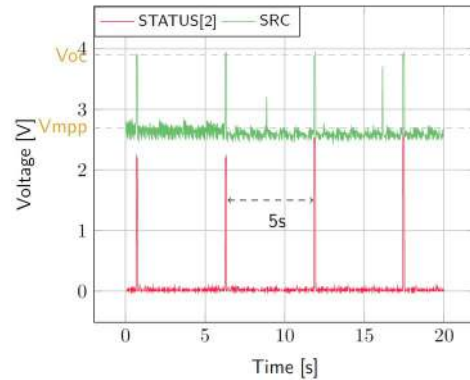

Figure 3: SRC and STATUS[2] while energy is extracted from SRC (BATT under VOVCH)
- SRC:** Regulated at Vmpp, which is a voltage equal to the open-circuit voltage (Voc) times the MPP ratio defined in Table 4. Vsrc equals Voc during MPP evaluation (see Figure 3). Note that Vsrc must be higher than 380 mV to coldstart.
- STATUS[2]:** Asserted each time the AEM10941 performs a MPP evaluation (See Figure 3).